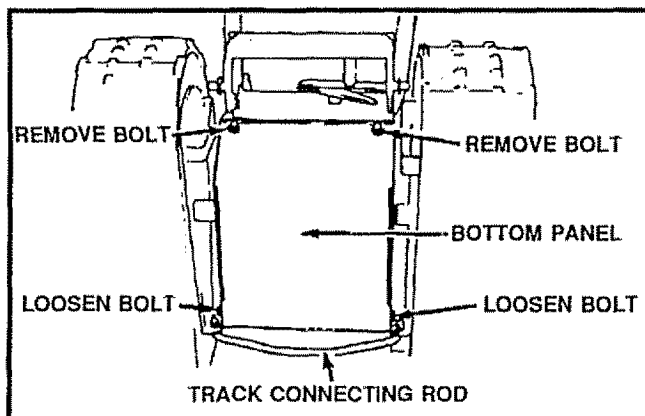
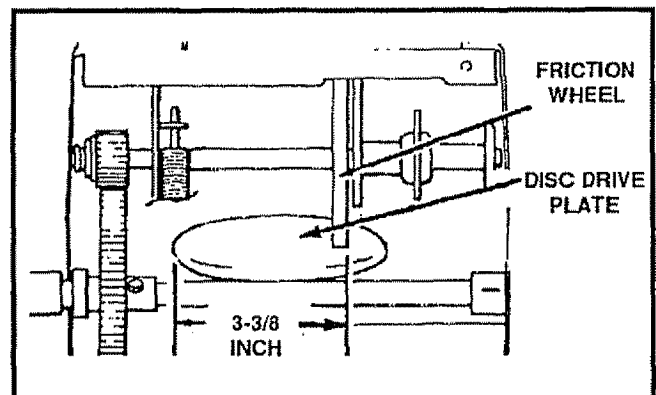

FIG. 29
FIG. 30
- Remove the bottom panel (See Fig. 29).
- Position the shifter lever in first (1) gear.
- Note the position of the friction wheel on the disc drive plate. The right side of the friction wheel should be $3-3/8$ " from the left outer side of the disc drive plate (See Fig. 30).